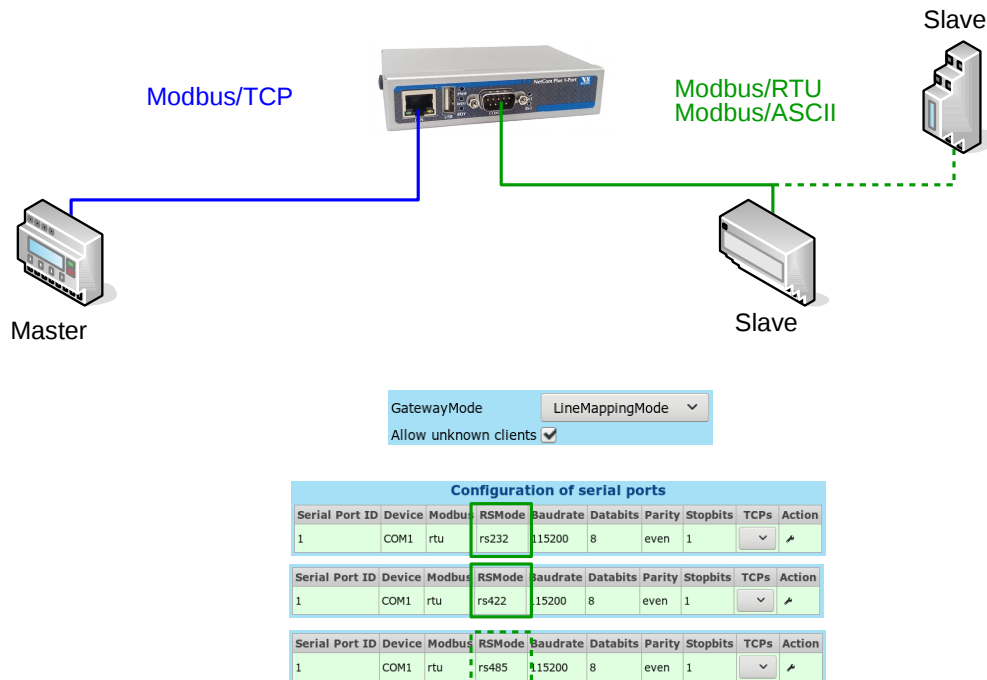

Figure 32: One serial line setup
**How this works:** When any TCP-Master opens a TCP connection to the ModGate Plus, all requests from this TCP connection are forwarded to the serial line and the responses are returned. Several simultaneous connections are supported, they are served sequentially to the serial line. The figure 32 shows this simple setup. If the serial line is operated with RS485, it can handle multiple serial Slaves where as RS232 and RS422 are restricted to one Slave device signified in green.